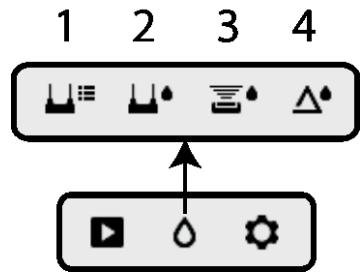

Fig. 5-2 Moisture mode icons
Icons 1, 2, 3, and 4 in Fig. 5-2 are shown in the Moisture Mode. Press Select to open the main menu and then choose the moisture icon  to view the Moisture modes. A blue dot is shown to the left of the pin icon (2) or the pinless icon (3), depending on which is selected. Use the Navigation buttons to highlight an icon and use the Select button to choose one.